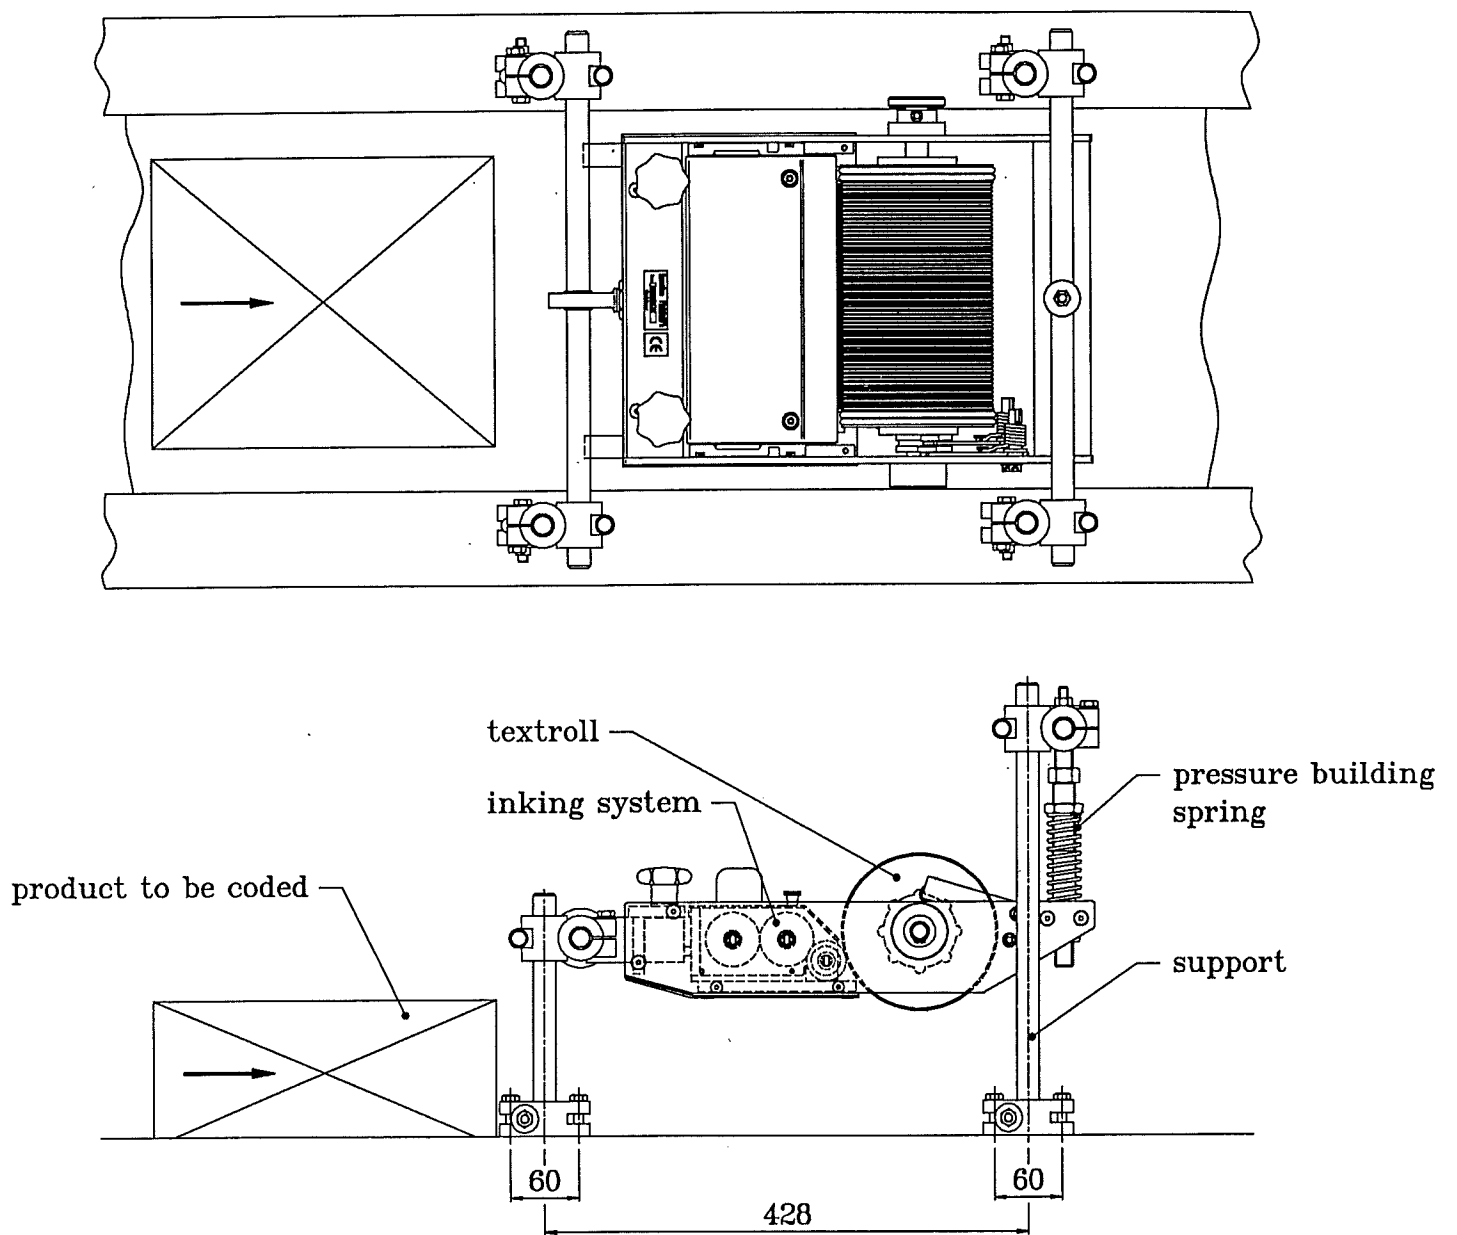

Figure 13 : The plaincoder
(see figure 13)
Consult figure 13 for the mounting instruction. When mounting pay attention to the free space around the coder and place it so there will be no chance of getting caught between the functioning coder and its surroundings (NEN-EN 294 and 349). Also keep in mind the possibility of mounting an ink pump later.
The transportation direction of the products decides the position in which the coder has to be mounted. Figure 13 indicates how to mount the coder if the product passes by in the direction of the arrow. Once the correct positioning has been established, the coder may be mounted.
1. Drill the holes (diameter 8,5mm.) required for mounting the support (drill them according to the hole-pattern in figure 13).